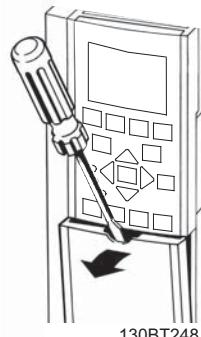

Figure 4.3 Access to Wiring for IP20 and IP21 Enclosures
- Remove the cover with a screw driver (See *Figure 4.3*) or by loosening the attaching screws (See *Figure 4.4*).